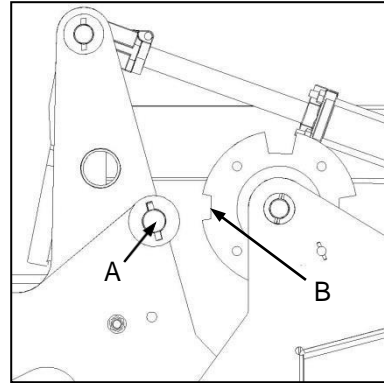

Fig. 4
- ✔ Lower the implement from the transport position such that the wheel support pin (Fig. 4-A) engages with the available slot in the rotary height selector (Fig. 4-B).
- ✔ Laat sak die implement uit die vervoerposisie totdat die wielsteunpen (Fig. 4-A) in die beskikbare gleuf in die hoogteselektor inhaak (Fig. 4-B).